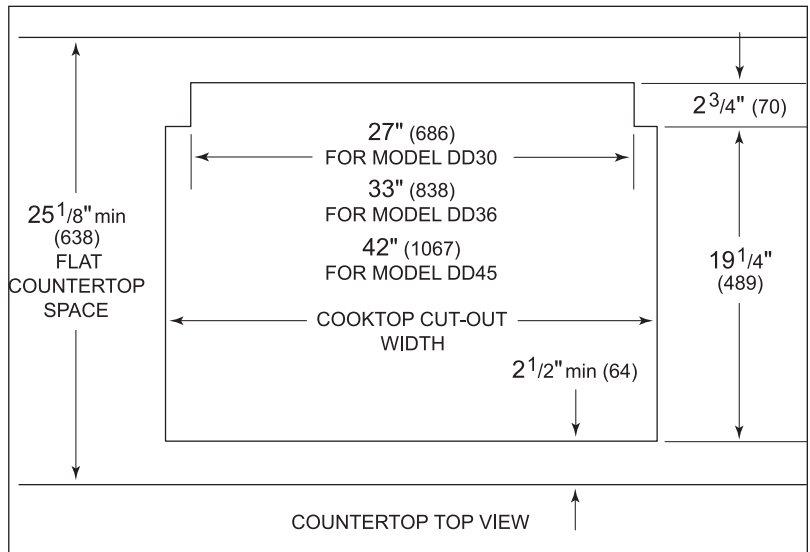

Figure 2-45 Top View Installation Dimensions
For installation of a downdraft system with a cooktop, refer to the cooktop installation instructions for the dimensions of the cooktop, countertop cut-out and cabinet requirements. The depth of the cooktop may vary and will affect the location of the downdraft in the countertop. Figure 2-45 provides countertop cut-out dimensions for downdraft Models DD30, DD36 and DD45 installed with a Wolf 30"(762) or 36" (914) cooktop or combination of cooktop and/or modules.